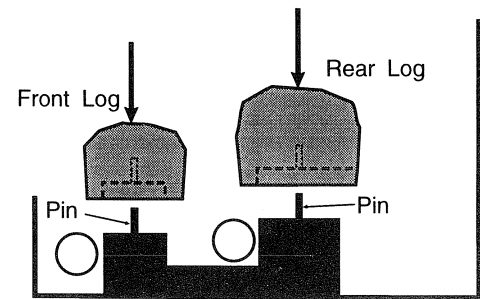

Figure 5
- 2) Place the larger diameter log in the back of the heater, aligning the slots in the bottom of the log with the support and pins sticking up in the rear of the unit. Carefully push the log down onto the support and pins. See Figure 5.
- 3) Place the smaller diameter log in front of the rear log and align the slots on the underside of the log with the front supports and pins. Carefully push the log down onto the support and pins. See Figure 5.